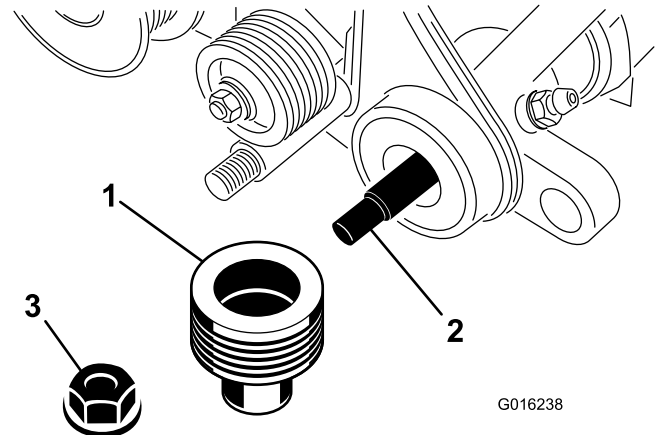

Figure 34
6. Remove the flange locknut securing the driven pulley to the end of the groomer shaft (Figure 34). Remove the pulley.